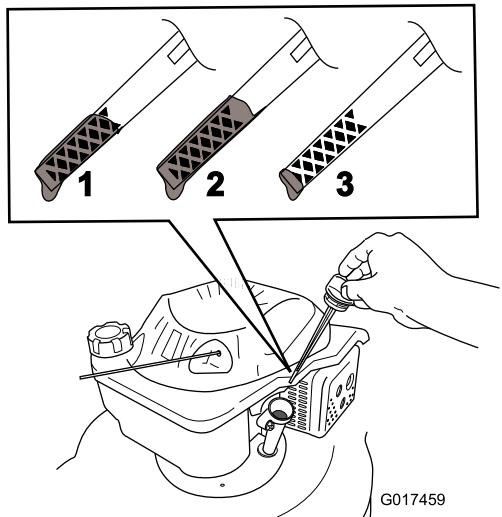

Figure 27
**Note:** Fill the engine crankcase with oil until the dipstick indicates that the engine oil level is correct as shown in (Figure 27). If you overfill the engine with oil, remove the excess oil as directed in step 5.